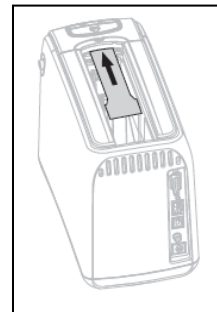

Figure 5
5. Refer to Figure 5. Insert the cleaning card into the media chute until $\frac{1}{4}$ inch is visible from the front of the printer.